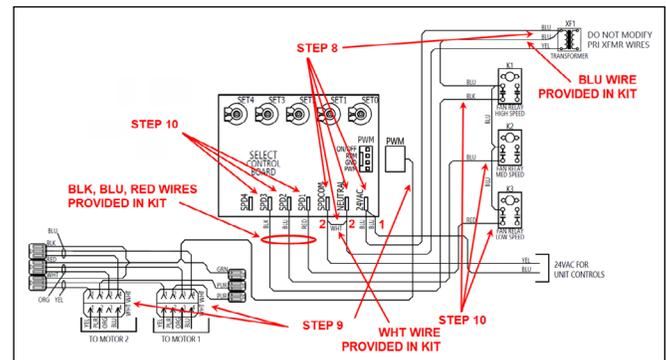

Figure 42 - Select PWM Electrical Connections
CONNECT POWER TO SELECT PWM (See Figure 42)
CONNECT MOTOR CONTROL SIGNAL TO SELECT PWM (See Figure 42)
CONNECT FAN CONTROL WIRES TO SELECT PWM (See Figure 42)
- Ensure that the new wires have been connected as specified in Figure 42.